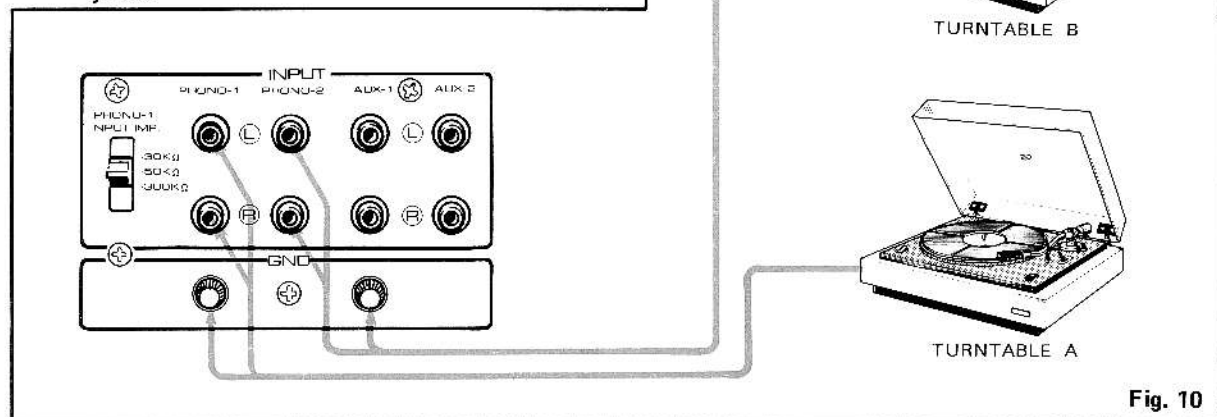

Fig. 10
Two separate sets of Phono inputs permit the connection of two magnetic cartridge type turntables. With the rear panel switch, the Phono 1 input impedance can be matched to a 30kΩ, 50kΩ or 100kΩ moving magnet (MM), induced magnet (IM) or moving iron (MI) cartridge. Plug the phono lead pin plugs into the Phono 1 or Phono 2 jacks, and be sure to connect the turntable ground lead to the CR-1000 Gnd terminal (see Fig. 10).